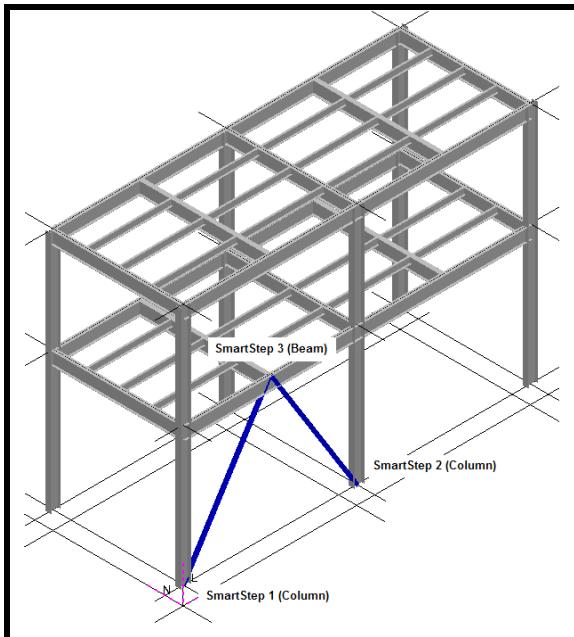

Figure 7 –Isometric View of the Structure U02
13. Select the first column for the first SmartStep (see figure 7).